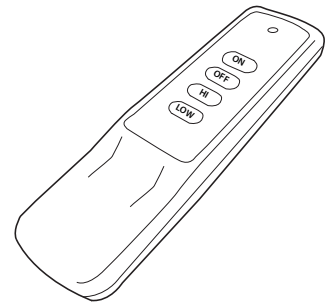

Fig. 11 Transmitter
2. The wiring extending from the valve box is a 12-foot special 4-pin connector that connects to the battery pack and (2) two additional wires with ¼" female connectors. A complete wiring diagram (Fig.11) is located on page 12.